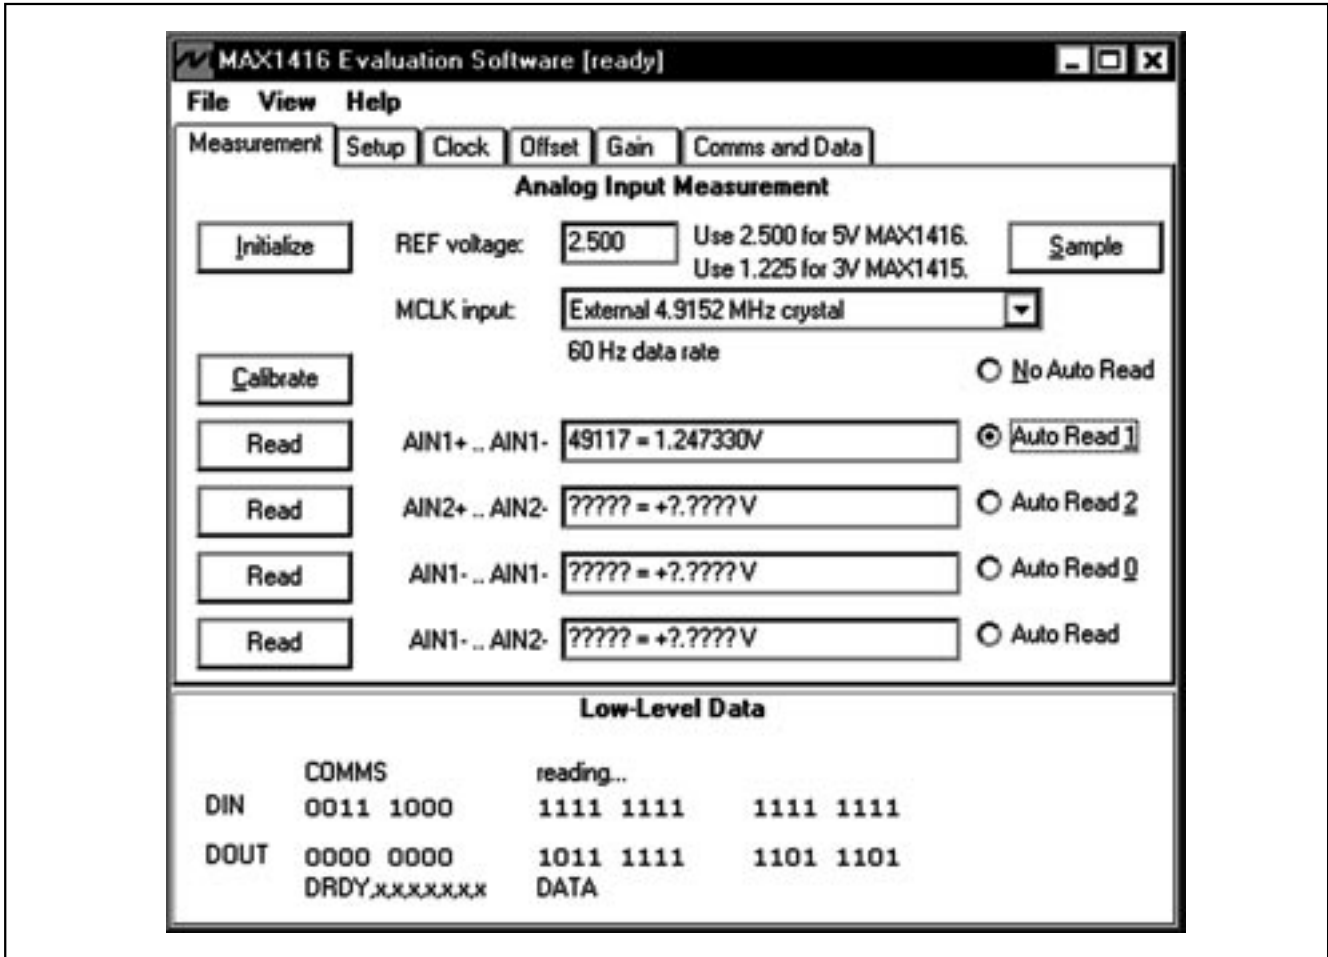

Figure 1. MAX1416—Main Window of the Evaluation Software—Measurement Tab Sheet
- 10) When the main window appears (Figure 1), click **Initialize** and then **Calibrate**.